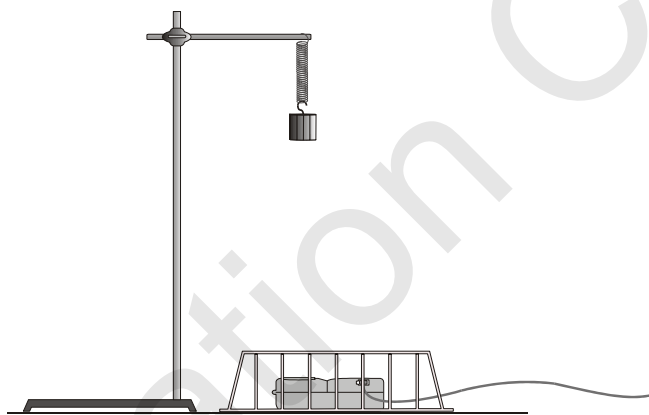

Figure 1
1. Attach the spring to a horizontal rod connected to the ring stand and hang the mass from the spring, as shown in Figure 1. Securely fasten the 200 g mass to the spring and the spring to the rod, using twist ties so the mass cannot fall. Adjust the height of the mass so that the bottom of the mass is about 33–55 cm from the table top or floor.